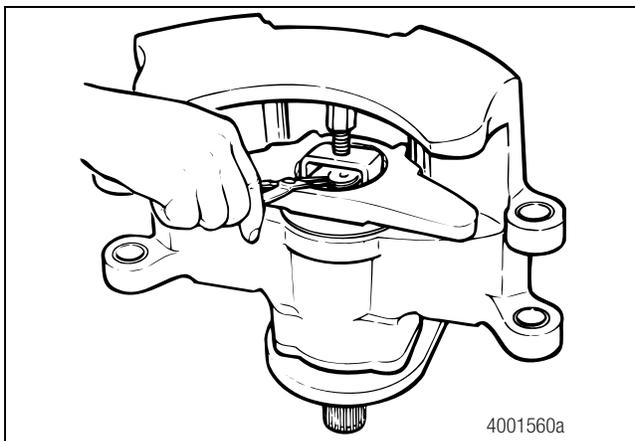

Figure 5.6
7. Use 45-degree snap ring pliers to remove the snap ring. Figure 5.6.